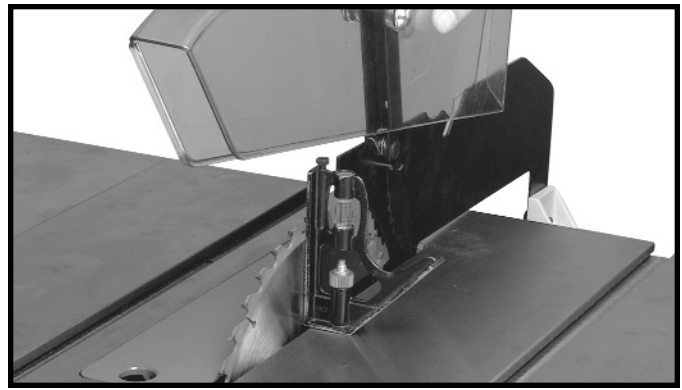
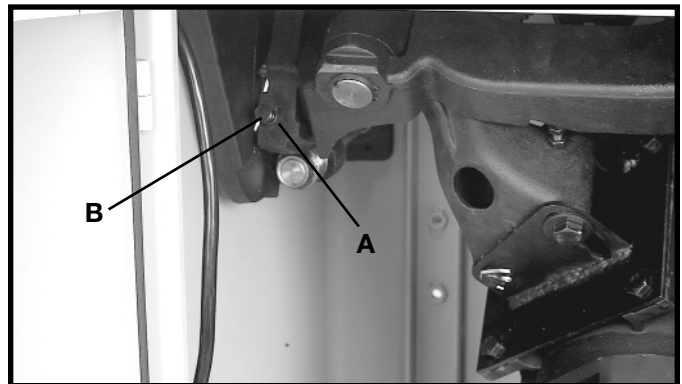

Fig. 32
Fig. 34
2. Using a square, check to see if the blade is 90 degrees to the table Fig. 32. If an adjustment is necessary, turn the blade tilting handwheel counterclockwise. Loosen locknut (A) Fig. 34, and tighten or loosen adjusting screw (B) until head of screw (B) contacts casting on front trunnion when the blade is at 90 degrees to the table. Then tighten locknut (A).